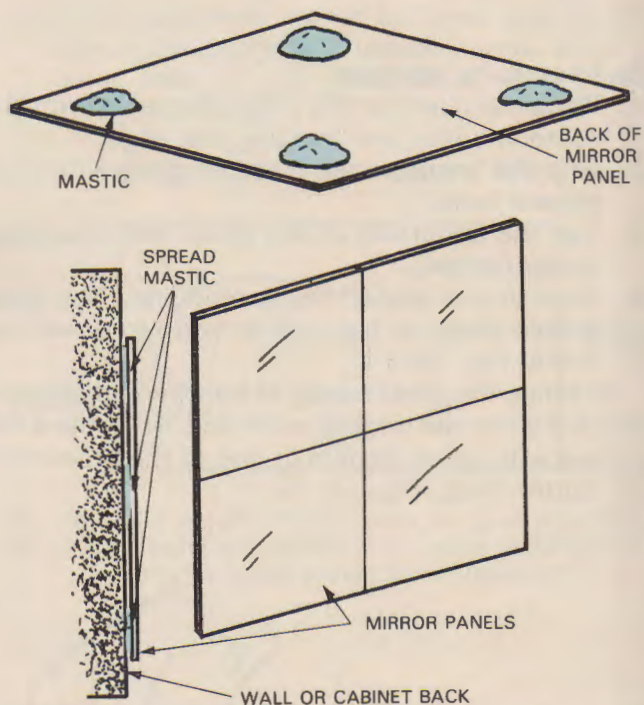

Fig. 15-15. Mastic is placed in four corners of the tile back. Once mounted, the mirror tile can be adjusted slightly.
1. Place one to three tablespoons of mastic near each corner of the tile, Fig. 15-15.